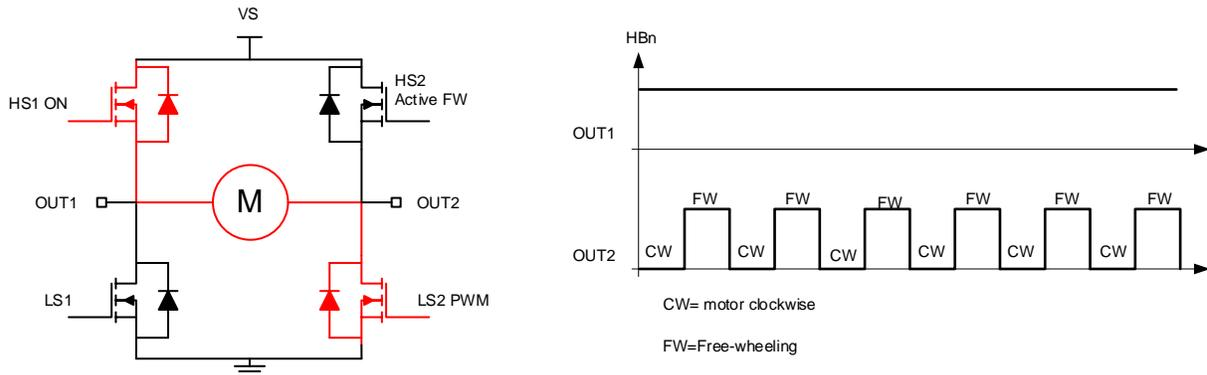

Figure 6. PWM Operation on OUT2
An illustration is shown in Figure 6 with OUT1 and OUT2 driving a DC brush motor. With this configuration, HS1 is permanently driven while LS2 is driven in PWM operation. HS2 serves to active free-wheeling (FW) the motor current load, reducing the power dissipation of the device.